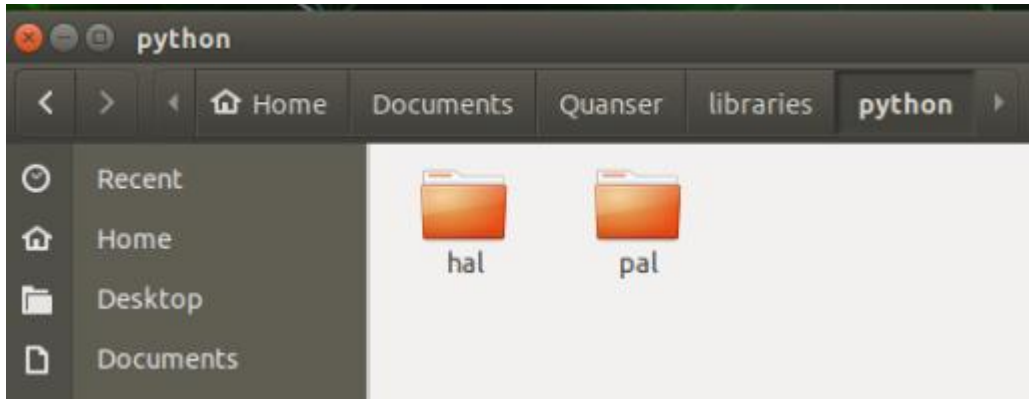

Figure 3. Example folder structure on QCar
1. Make a common directory on the QCar for Quanser resources where files will be transferred to and from. We recommend creating a folder called Quanser under Documents as the common directory (Figure 3). You may use a keyboard/mouse to connect to the QCar or see the User Manual - Connectivity for how to remotely connect to the QCar.